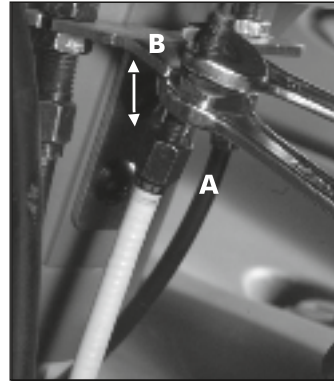

Fig. 2.89A
- For adjusting free play of forward gears pull the adjuster bolt of gear cable white away from the pulley gearshift to reduce free play and towards it to increase free play. (Fig. 2.89A)